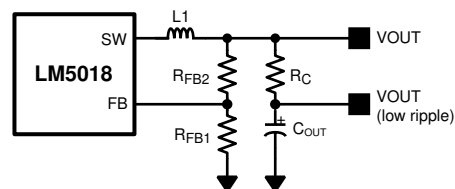

図 7-1. Low Ripple Output Configuration
This regulator regulates the output voltage based on ripple voltage at the feedback input, requiring a minimum amount of ESR for the output capacitor (C_{OUT}). A minimum of 25 mV of ripple voltage at the feedback pin (FB) is required for the LM5018. In cases where the capacitor ESR is too small, additional series resistance can be required (R_C in 図 7-1).
For applications where lower output voltage ripple is required, the output can be taken directly from a low ESR output capacitor, as shown in 図 7-1. However, R_C slightly degrades the load regulation.